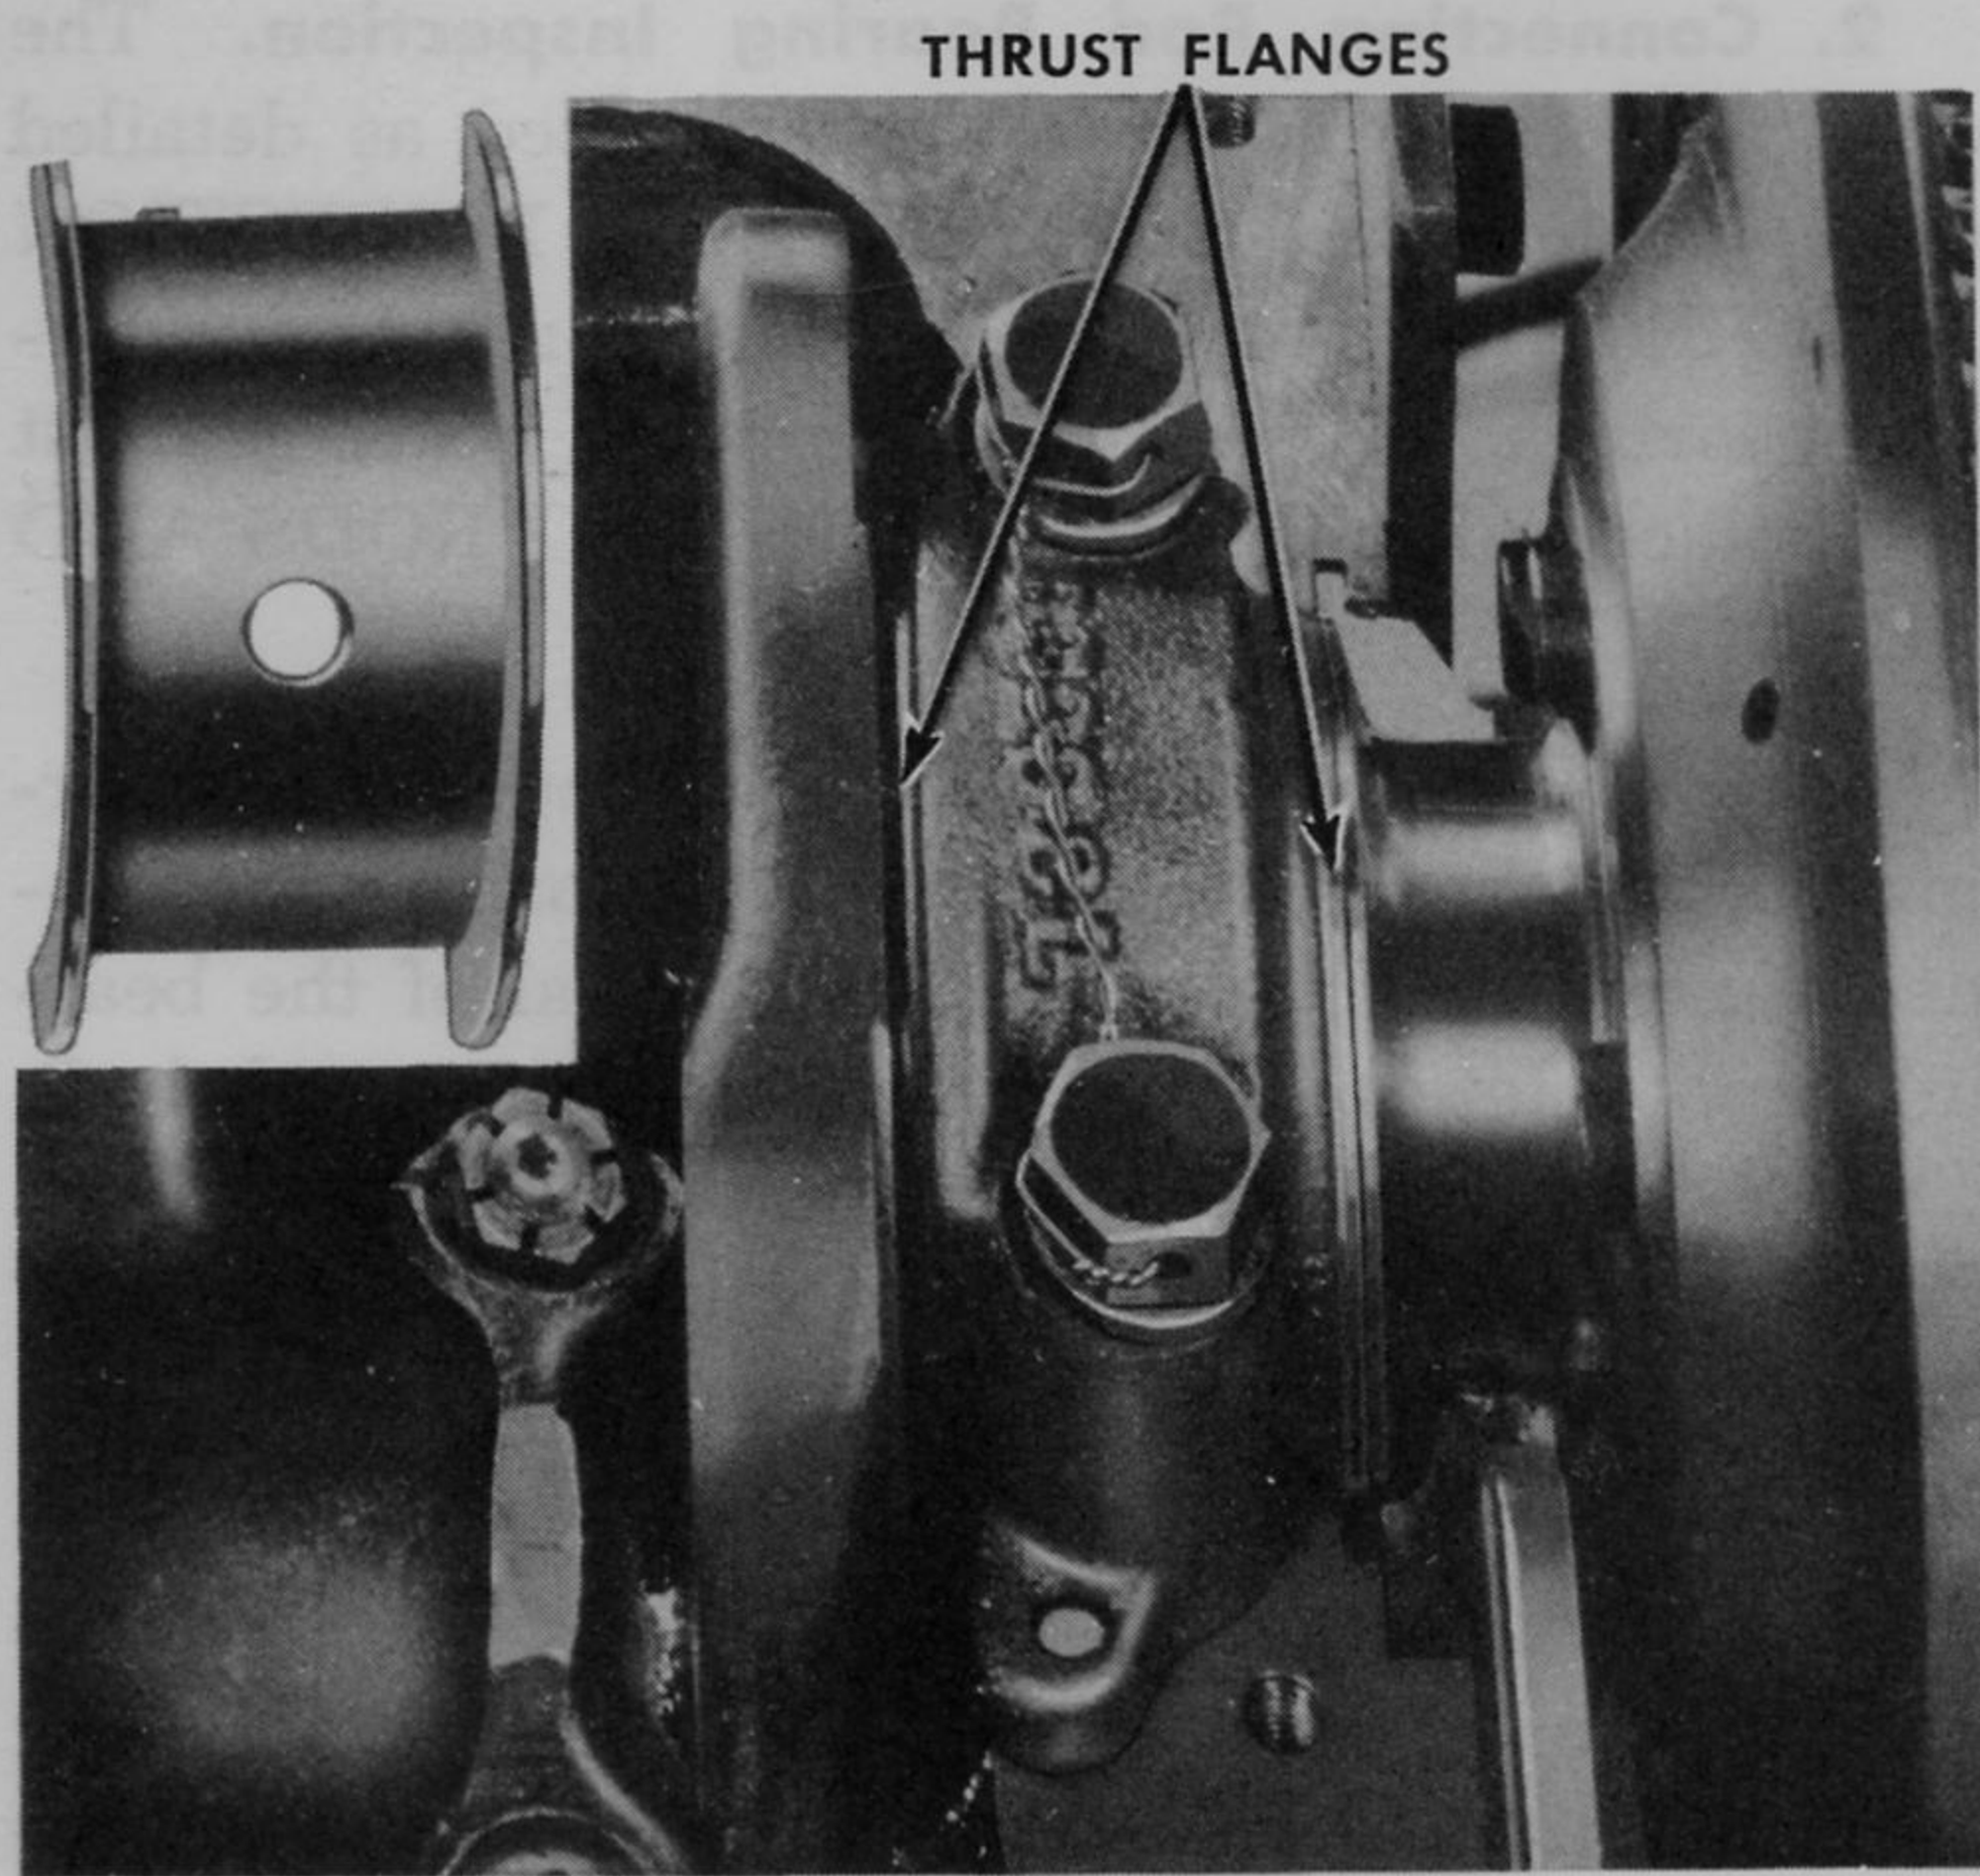

Fig. 59—Rear Main Bearing Installation
g. CRANKSHAFT END-PLAY. The end play of the crankshaft is controlled by flanges on the rear main bearing and the machined surface on the number 8 cheek and on the inner side of the oil seal flange of the crankshaft (Fig. 59). Allowable end play is .003 to .006 inch. If the crankshaft end play is greater than .006 inch the bearing flange is probably worn, which will necessitate bearing replacement.